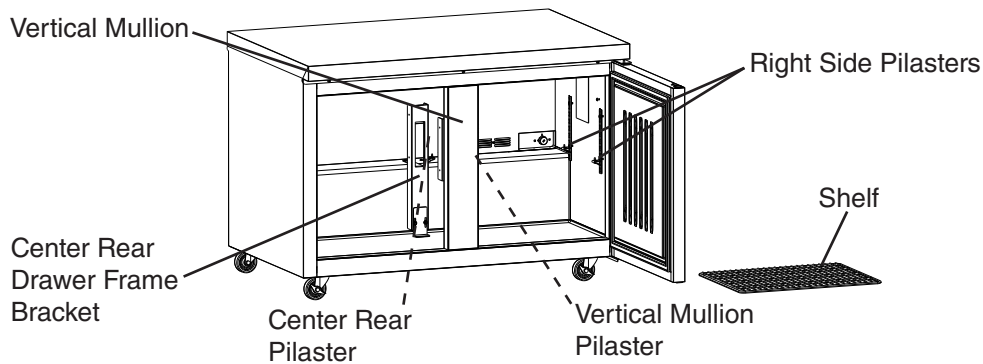

Fig. 23
- 5) Remove the shelf from the door section, then remove the pilasters. See Fig. 23.